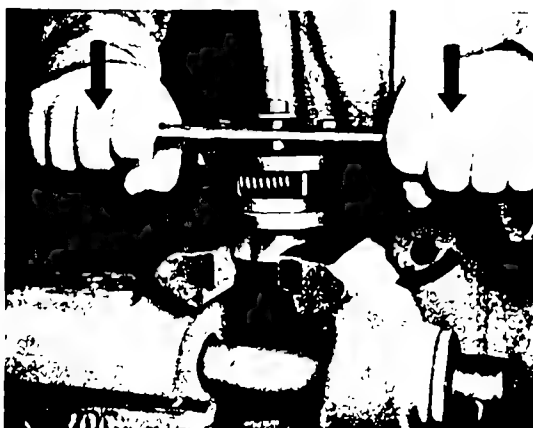

Fig. 16 Press down and turn drive flange to position
6. Move flyweights to rest position, i.e., press fully inwards. Now press drive flange down with assembly lever and turn simultaneously (against pressure of springs) until driving pins can be pushed into contact with the profiled cam surfaces of the flyweights (Fig. 16).